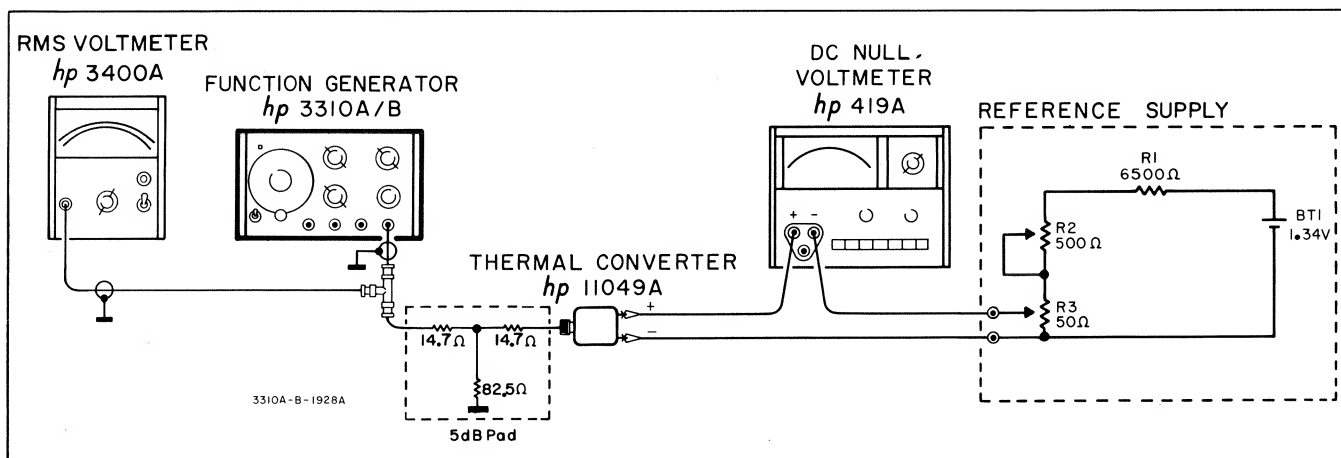

Figure 5-1. Frequency Response Check.
a. Connect equipment as shown in Figure 5-1 and set the coarse control (R3) to minimum resistance.